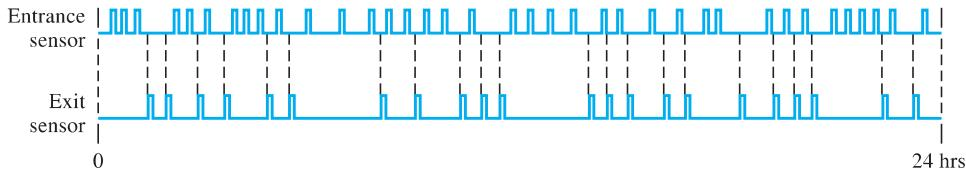

FIGURE 9–78
32. Analyze the counter in Figure 9–43 for the occurrence of glitches on the outputs of the decoding gates. If glitches occur, make a design change that will eliminate them.
33. Assume that the digital clock of Figure 9–48 is initially reset to 12 o'clock. Determine the binary state of each counter after sixty-two 60 Hz pulses have occurred.
34. What is the output frequency of each counter in the digital clock circuit of Figure 9–48?
35. For the automobile parking control system in Figure 9–51, a pattern of entrance and exit sensor pulses during a given 24-hour period are shown in Figure 9–78. If there were 53 cars already in the garage at the beginning of the period, what is the state of the counter at the end of the 24 hours?
36. The binary number for decimal 57 appears on the parallel data inputs of the parallel-to-serial converter in Figure 9–53 (D_0 is the LSB). The counter initially contains all zeros and a 10 kHz clock is applied. Develop the timing diagram showing the clock, the counter outputs, and the serial data output.
37. For the counter in Figure 9–4, show the timing diagram for the Q_0 and Q_1 waveforms for each of the following faults (assume Q_0 and Q_1 are initially LOW):